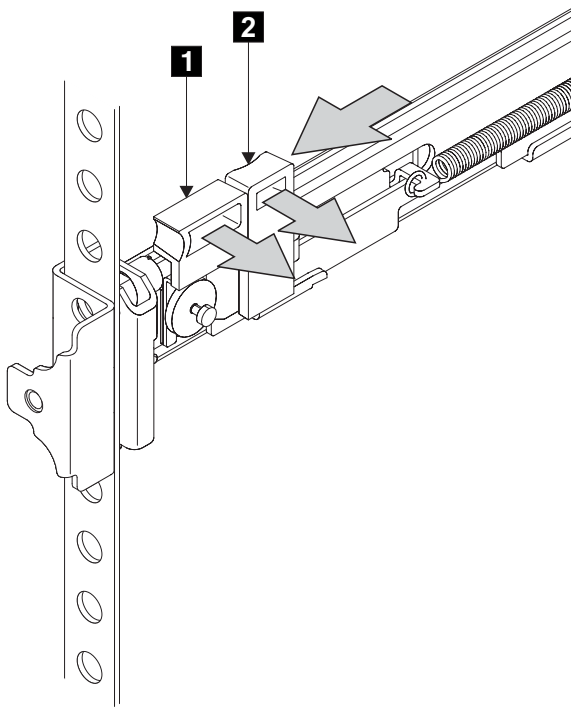

Figure 29. Closing the latch-lock carrier assembly
11. Push the latch lock **2** (see Figure 29 on page 22) away from the rail to release the carrier. The latch-lock carrier slides toward the front of the rack, and the locating pins project through the holes that are in the front flange and in the front rail bracket.